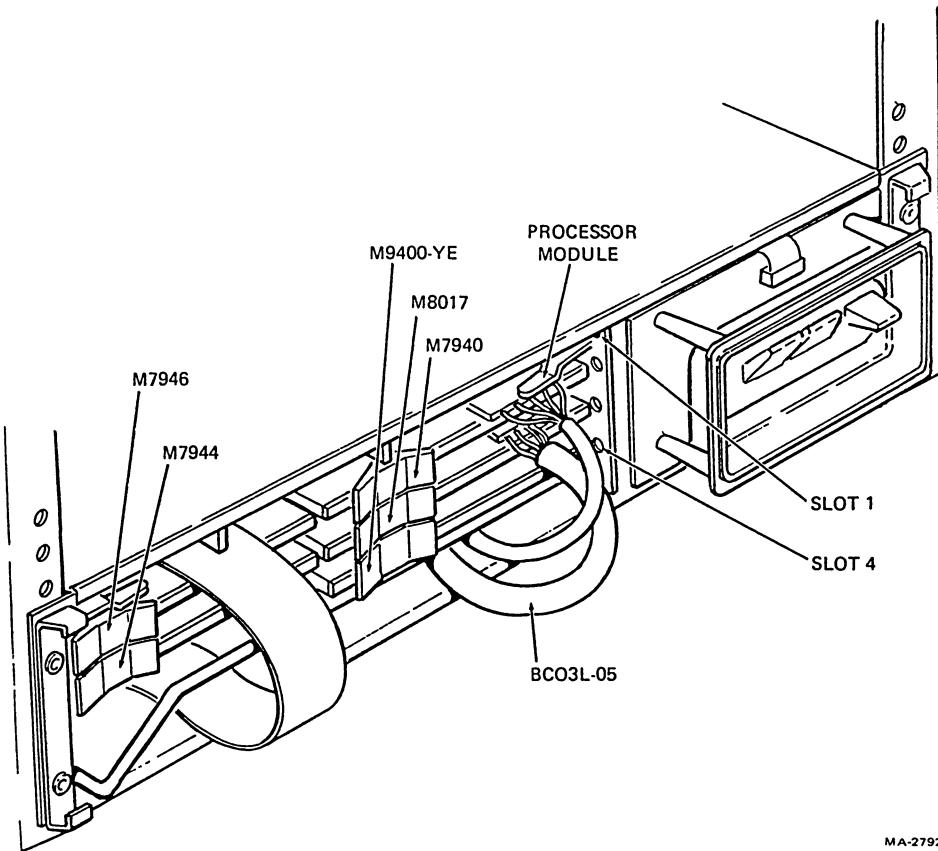

Figure 2-3 LSI-11 Module Layout After Installing KC780-XX Option
6. Release and remove cable connector from the M7940 module (Figure 2-3).
12. Route the BC03L-05 cable between the LSI-11 mounting box and the bus terminator module as shown in Figure 2-3.
7. Release and remove cable connector from the M7940 module (Figure 2-3).